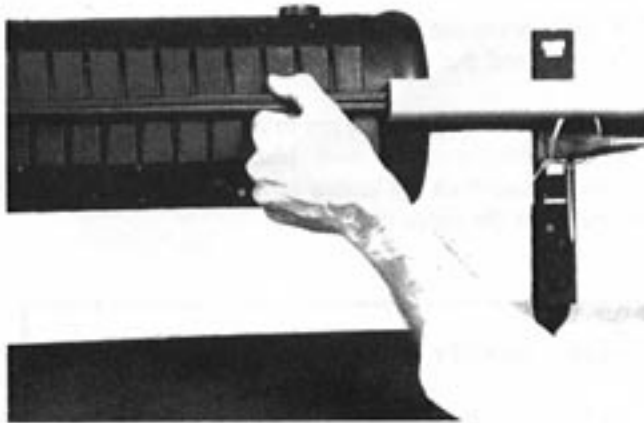

Figure 37 — Applying Closing Clamps
12.03 Squeeze the flanges together and fully apply the closing clamps. Figure 37.